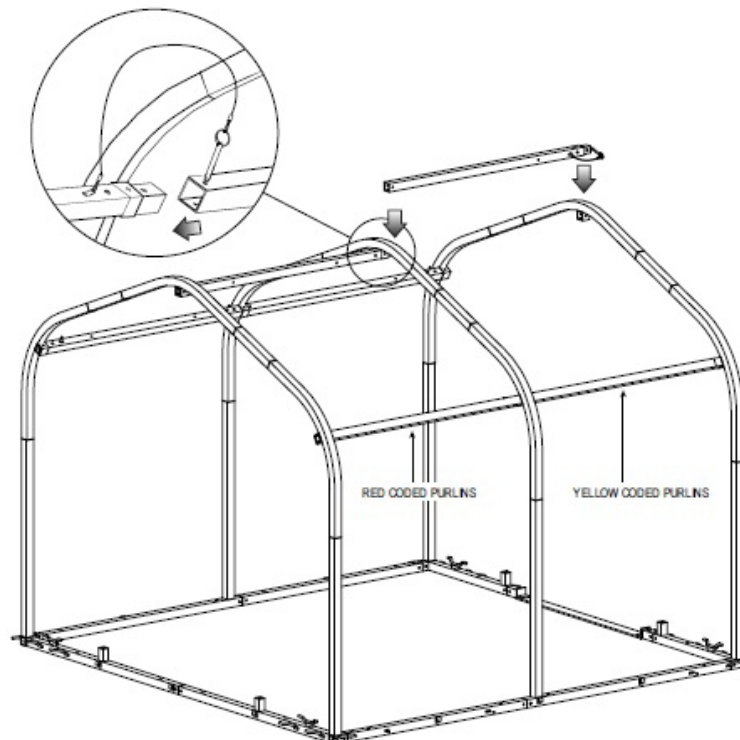
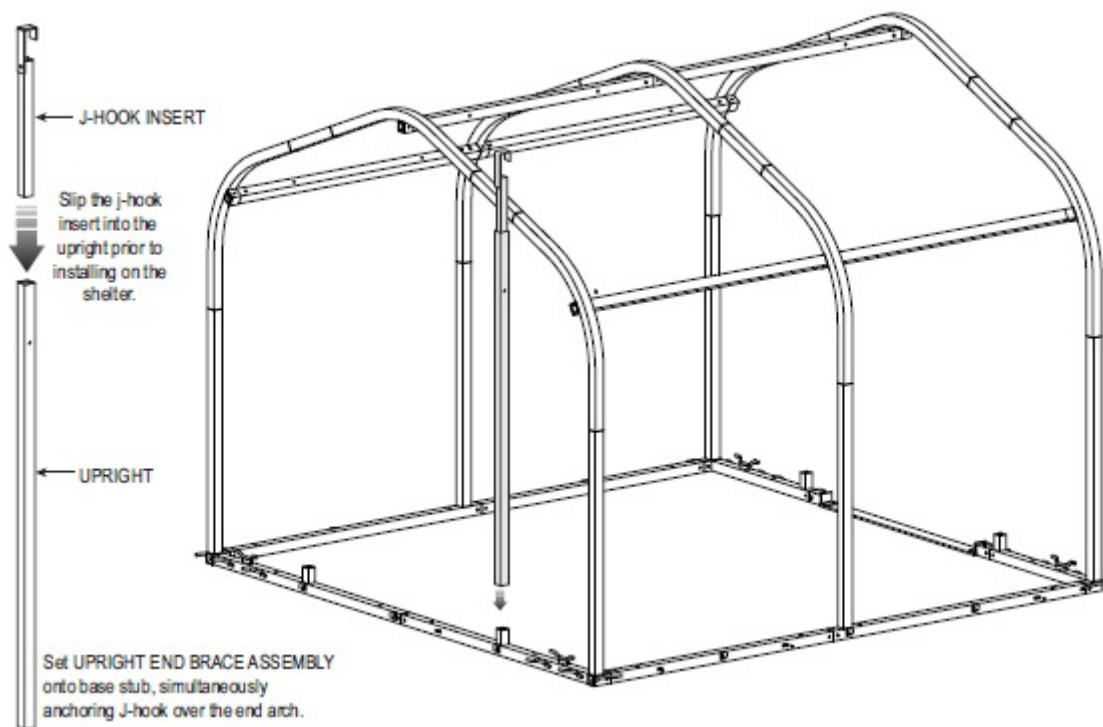

Figure 2-79. EBS purlins.
Figure 2-80. EBS uprights and J-hooks.
There are three rows of purlins that connect the arches. Begin with the RED coded start purlins, inserting one end into the first purlin sleeve and securing it with the attached pin. Make sure that the pins are fully inserted at each purlin connection site. The pins should be inserted from the top of the purlin toward the ground. Install YELLOW coded end purlins in the next bay. Locate the uprights and upright inserts with J-hooks. Install (2) uprights at each end of the shelter. Place an upright insert into the top of the upright (fig. 2-79). Lift the upright, with the open end of the J-hook facing the shelter arch. Slip the J-hook on the insert over the end arch. Place the bottom of the upright down onto the appropriate base stub (fig. 2-80). Pay attention to the instructions stenciled on the upright. Plumb the upright, and ensure that the upright insert is oriented so that the bolt head is facing away from the shelter.